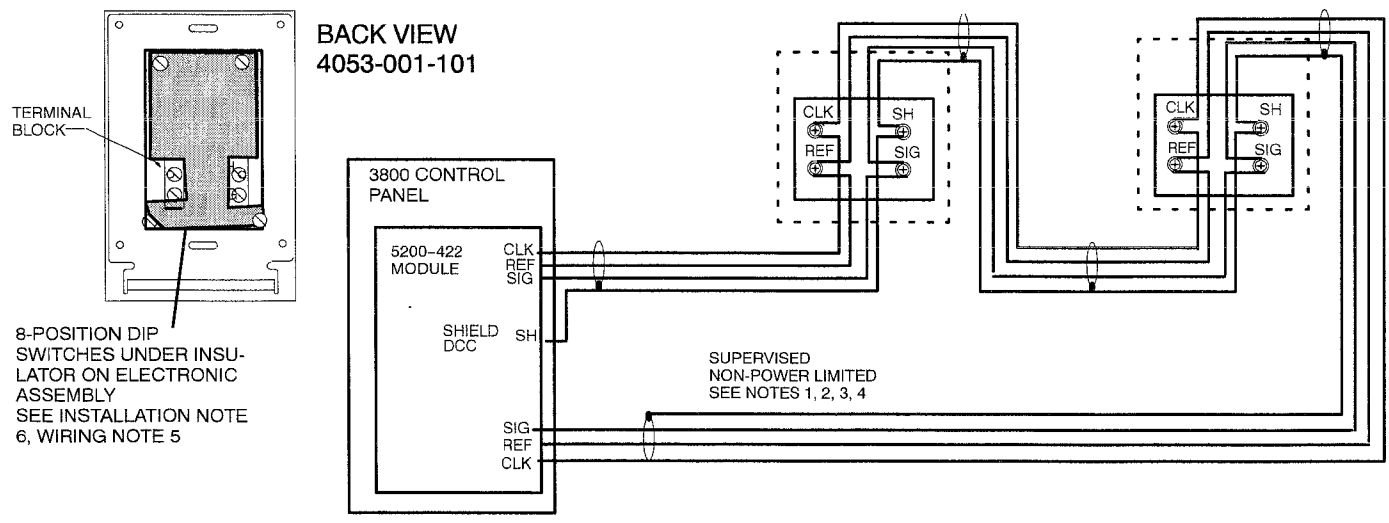

Figure 6. 4053-100-101 XA Interface typical wiring to XA loop at 5200-422 Module.
**WIRING NOTES—4053-001-101 XA Interface to Control Panel Application—Figure 6**